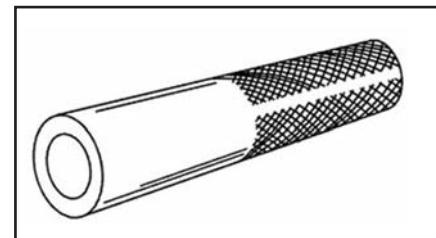

Figure 4 Use a hammer pin driver to install the bracket dowel pins in the engine block.
6. Use a hammer and pin driver (p/n J 46165 or equivalent) to install the dowel pins through the two lower holes in the bracket and into the engine block. Make sure that the bracket is held firmly in place before proceeding (**Figure 4**).